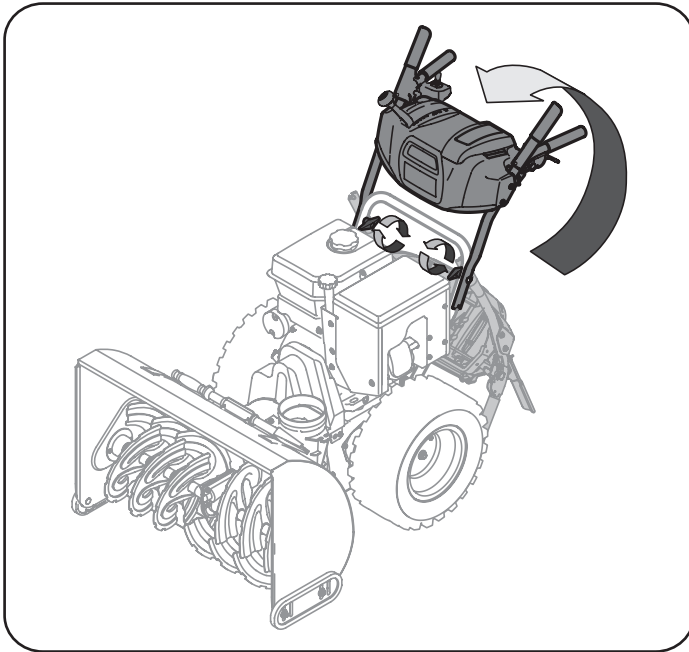
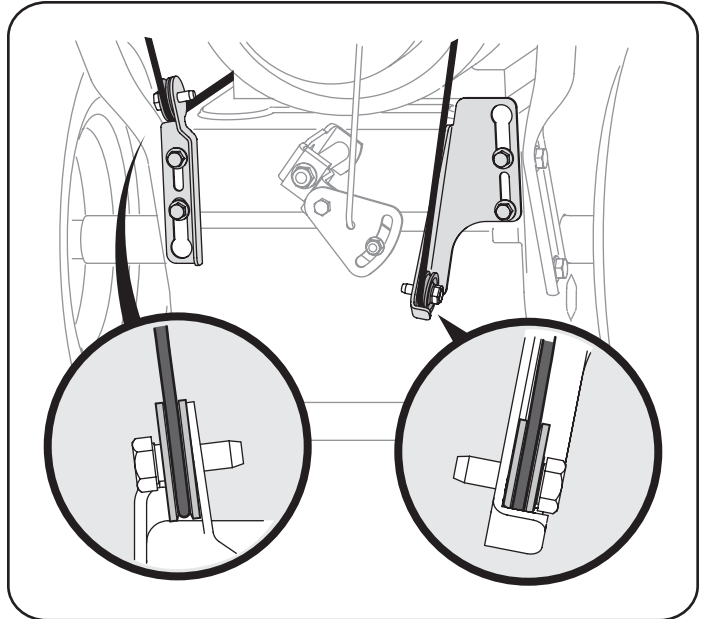

Figure 1
Figure 2
- b. Pull up and back on upper handle as shown in Figure 1. As you are raising the handle upward, make sure that both ends of the center cable are positioned properly in the brackets. See Figure 2. Align upper handle with the lower handle.